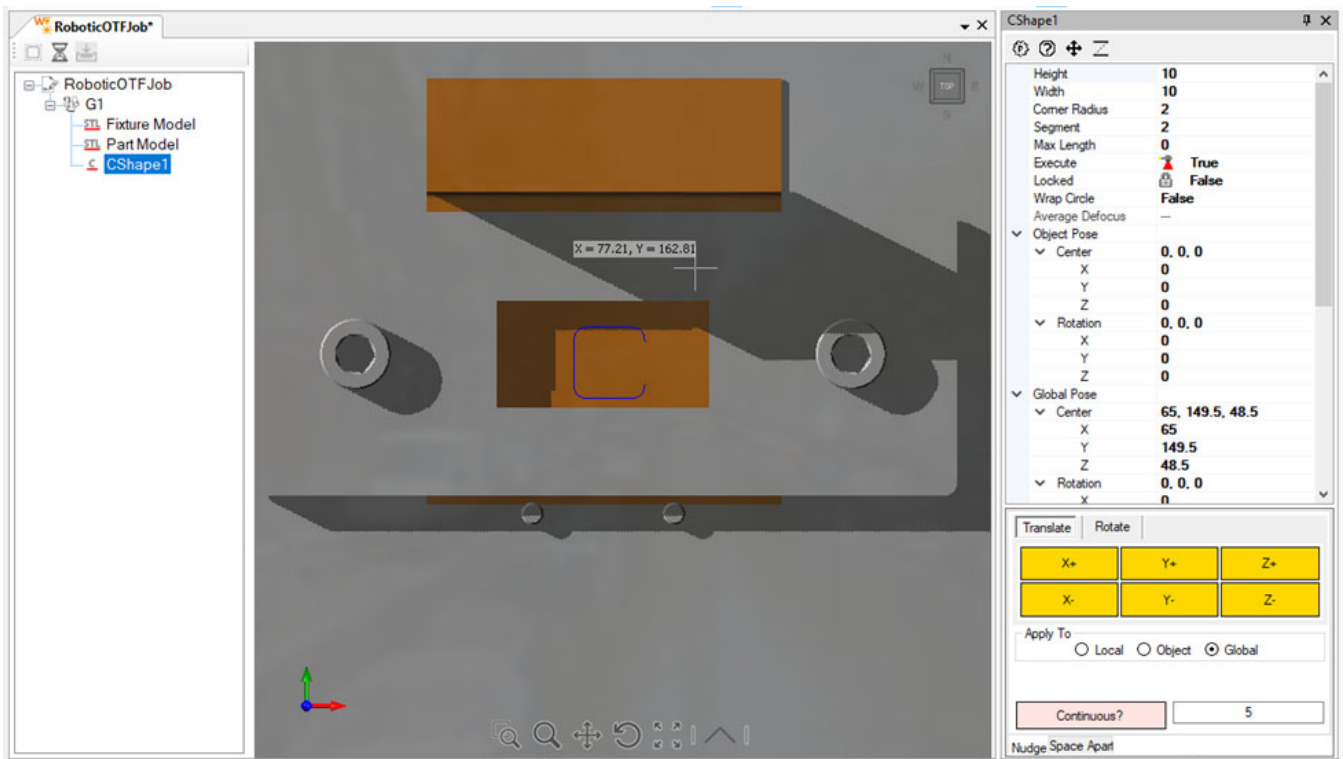

Figure 237: Nudging a Process Object into Position
4. Users can now nudge the process object into the appropriate location relative to the CAD model by using the X, Y, and Z buttons in the Nudge Tool window. See Figure 237 (below).